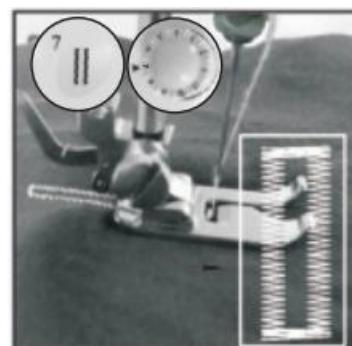

Fig.21
6. Choose stitch pattern #7, then turn on switch and sew till buttonhole is fully sewed(Fig.21).